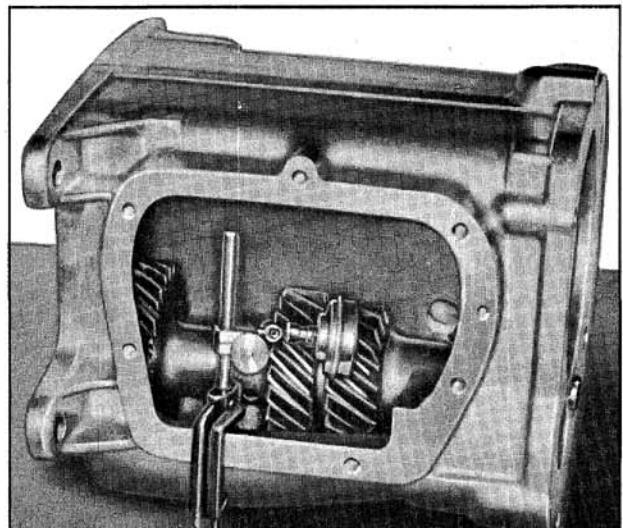

Fig. 7-74 Checking Countergear End Play
6. Attach a dial indicator as shown in Fig. 7-74 and check end play of the countergear. If end play is greater than .025", new thrust washers must be installed.